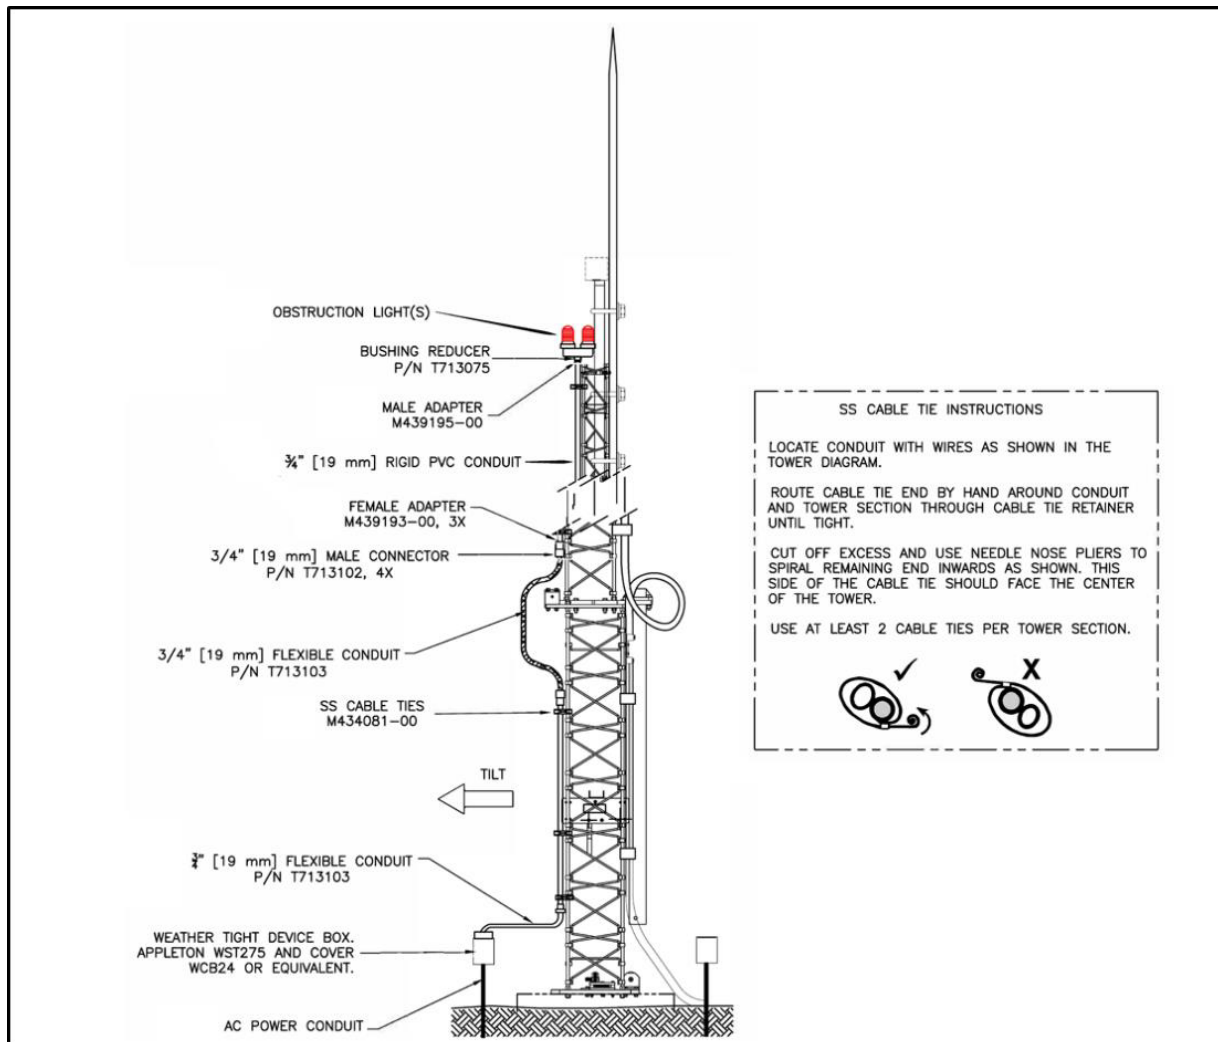

Figure 7. Installation of Obstruction Lights
Figure 7 shows the details to install tower lights.
3. Install the conduit next to the tower leg on the inside of the tower frame, and secure the conduit to the tower leg approximately every meter (every 3 to 4 ft) using the stainless-steel cable ties provided. Take care to not over-tighten and damage the tower legs. (Refer to the directions in Figure 7 for using the cable ties.)